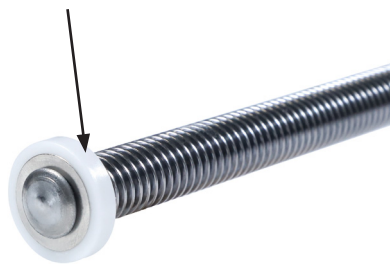

Figure 2
- 2. To avoid off-centre load or even damage to the actuator, the mechanical endstop must be fixed to the application (see Fig. 2 below).